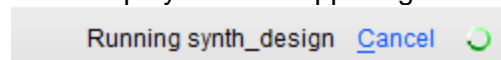

Figure 15.
1. Click ok and running status is displayed in the upper right corner, as shown in figure 15.